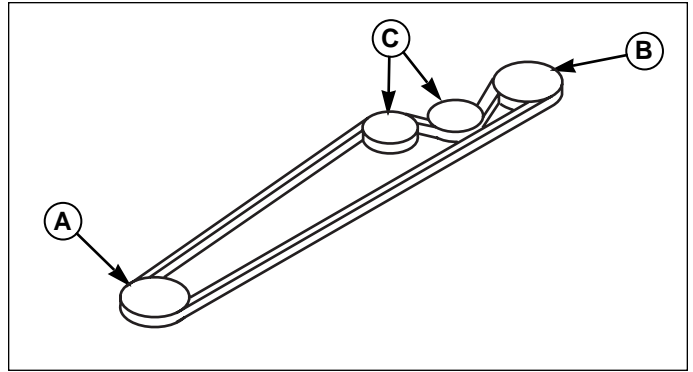

Figure 39. Drive Belt Routing - All Models
8. Install new belt as shown in Figure 39.